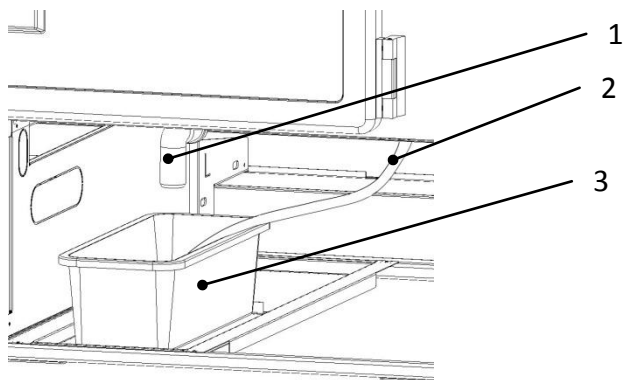
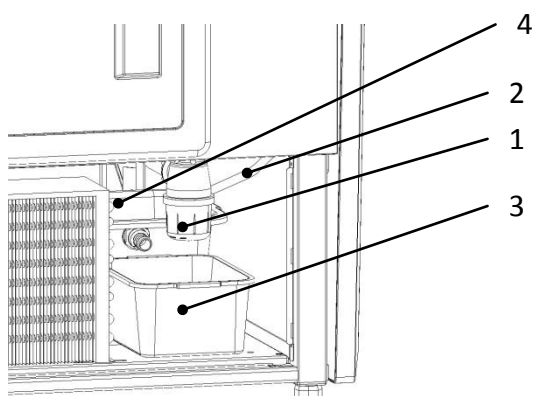

Fig. 6 Condensate container (version without an evaporator)
Fig. 7 Overflow (version with an evaporator)
9. Place the condensate container on the base of the device, according to Fig. 6 \(p. 9\) or Fig. 7 \(p. 9\)
If the device isn't equipped with automatic condensate evaporation, the condensate must be drained from the container if it is full Fig. 6 \(p.9\). The amount (frequency) of condensate removal depends on the device operation conditions (i.a. air humidity, frequency of opening of the doors, the amount and temperature of the inserted products).